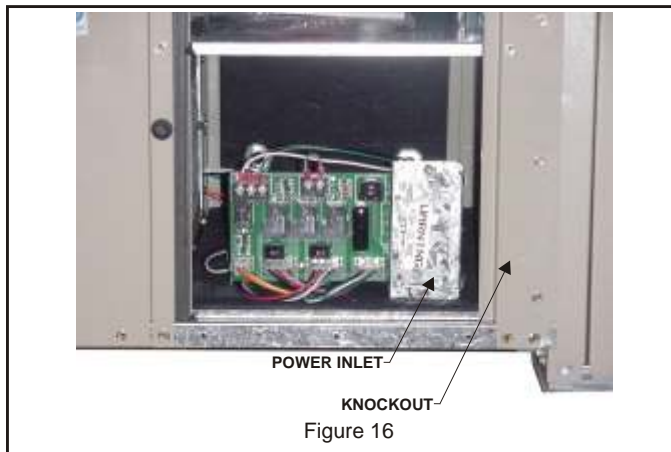

Figure 16
- Connect line voltage power to ERS unit from ERS field provided or rooftop unit disconnect switch (disconnect must be properly sized). Then connect line voltage from disconnect switch through ERS knockout on back panel to control box per the wiring diagram. See Figure 16.